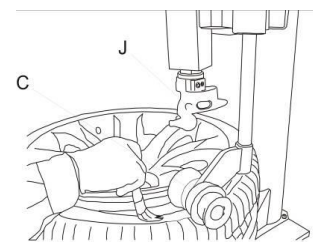

Fig 9
**Caution:** Without the lubricant may lead to badly wear and tear on tyre. (Fig 9)